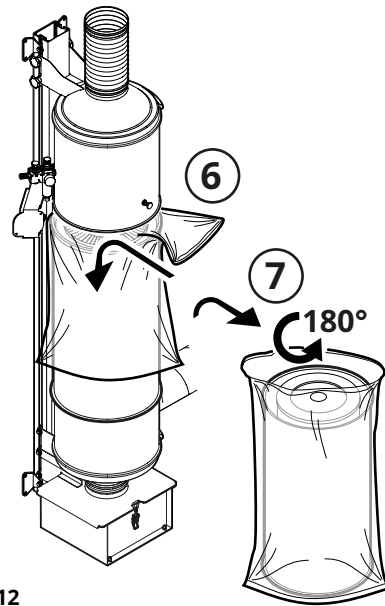
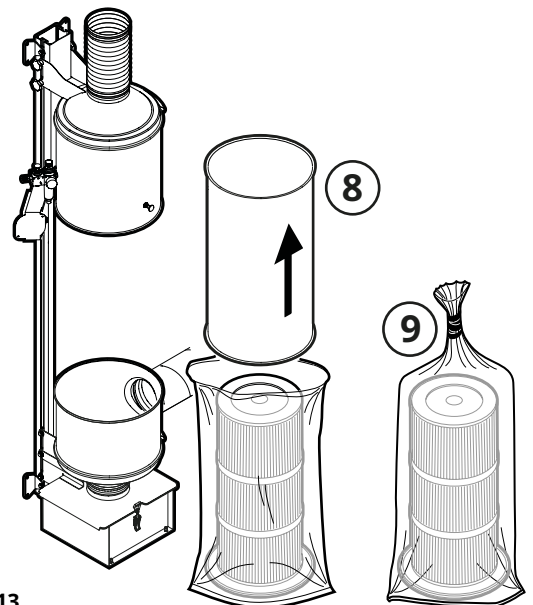

Fig. 12
Fig. 13
5. Place Filter bag CFE PCW3 (6, Fig. 12) over the filter housing so that it covers all the way down to the connection cylinder.
6. Lift the filter housing with Filter bag CFE PCW3, turn it upside down and place on a flat surface (7).
7. Lift out the filter housing from Filter bag CFE PCW3 (8, Fig. 13) so that only the cartridge filter remains; seal the package (9).